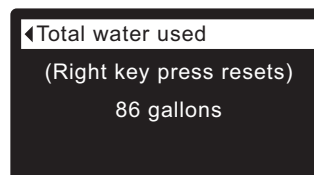

FIG. 66
6. The **Total water used** screen (See Figure 66) shows the volume of water used since it was last reset (it works like the trip odometer in a car). To reset the value to 0, press the RIGHT (►) button while this screen is displayed.